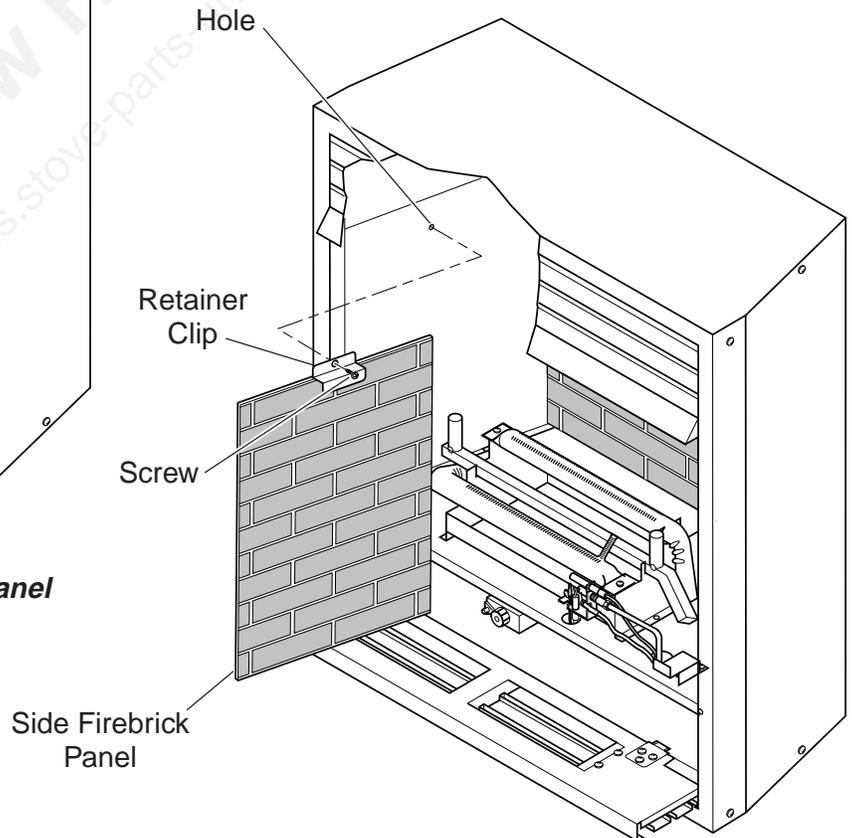

Figure 5 - Installing Side Firebrick Panel
5. Place one of the side firebrick panels in cabinet. Line up the hole in the retainer clip with the hole inside the firebox. Using Phillips screwdriver, attach the retainer bracket to inside of firebox. *See Figure 5.*